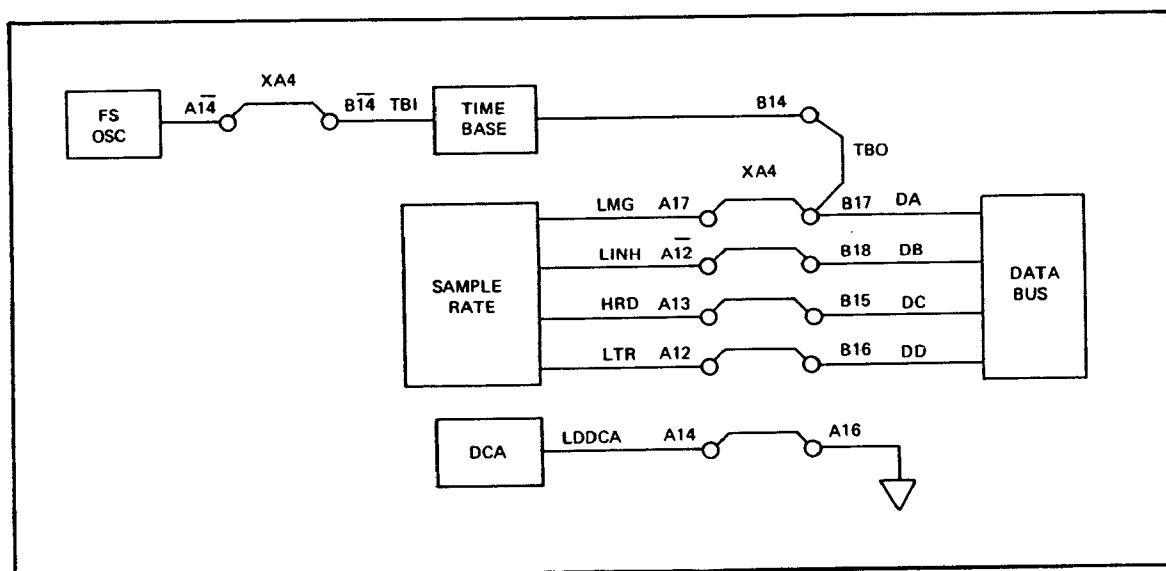

Figure 8-A-4. Test Card 2, Test 8 Setup
**SETUP:** Set up equipment for this test as shown in Figure 8-A-4.